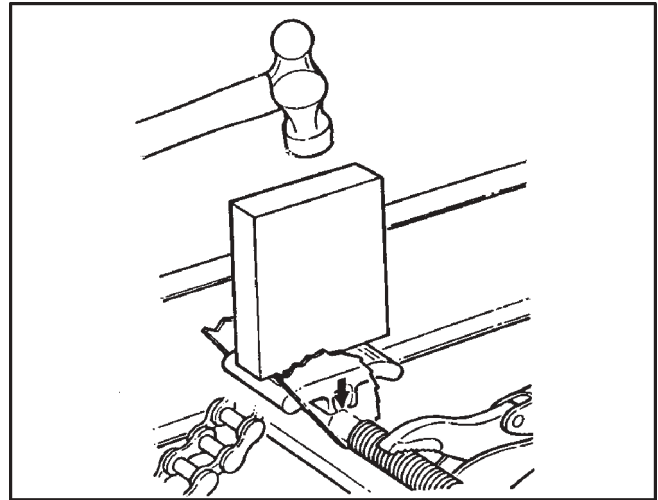

Figure 7-14 Hammering Slider Block into place
5. Using a piece of wood (or similar material) pressed against the top of the slider block, carefully hammer the piece of wood so the slider block snaps onto the cam assembly shaft as shown in Figure 7-14.